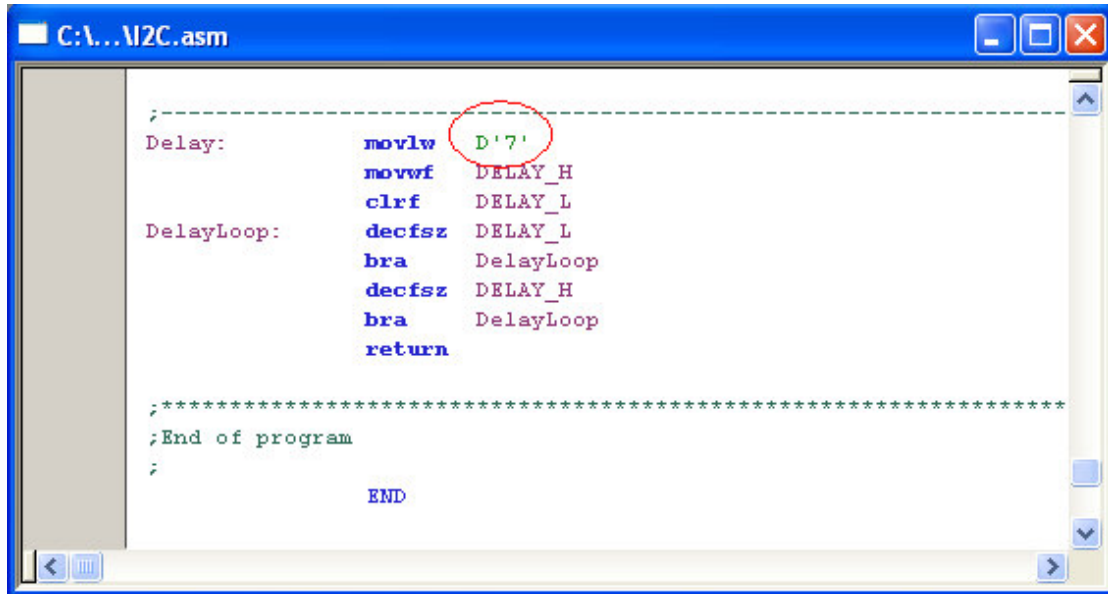

Figure 34 – Modify the delay constant circled in red
11. (?) Change the delay constant from decimal 7 to decimal 1 (see Fig. 34) and perform the byte write operation again. By observing the display on the logic analyzer, you can see that separation between the four pulse sequences becomes narrower. Notice that a NAK is received in some byte write operations. Explain why this happens by referring to the course notes. Also refer to the 24C02 datasheet to find out the minimum timing separation required between two byte write operations.